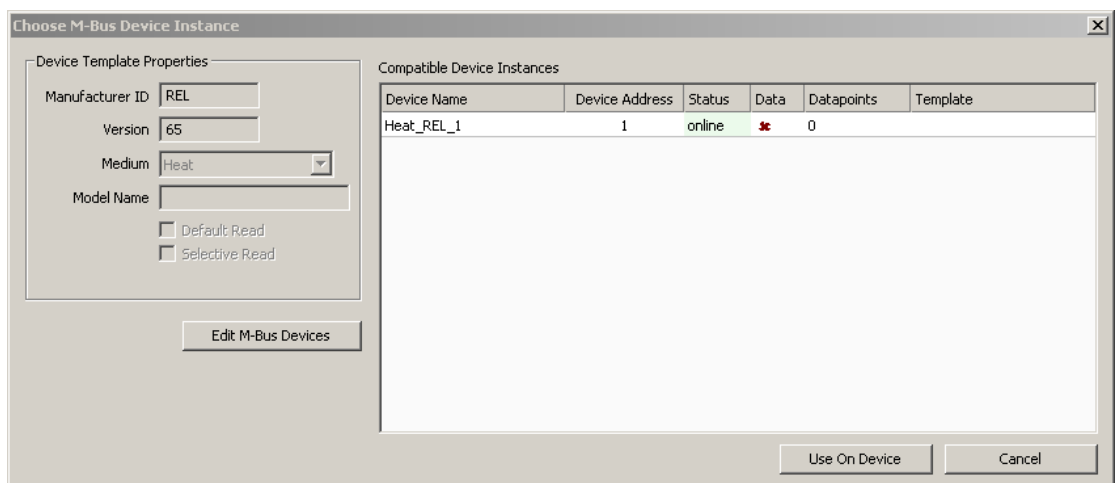

Figure 261: Use on Device dialog.
3. Either press on the **Use on Device** button  or right-click and select **Use on Device**. This opens the **M-Bus Configure Device For Use** dialog shown in Figure 261.